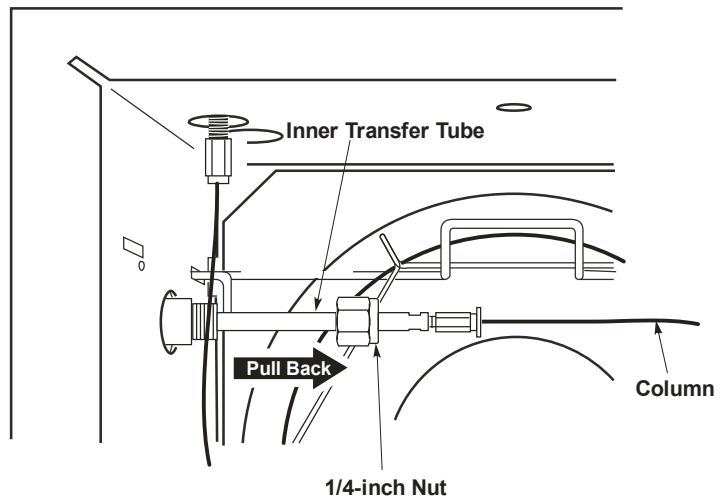

Figure 26 Pulling back the inner transfer tube.
17. Loosen the large 1/4 inch nut on the Transfer Line tube assembly using the 9/16 inch wrench and pull back the Transfer Line tube approximately 1 to 2 inches. See **Figure 26**.